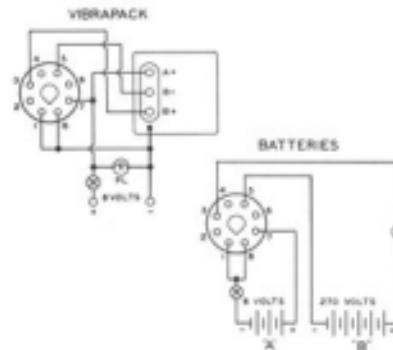

Figure 9. Octal plug wiring diagram
2. Wire an octal plug, as shown in Fig. 9, and plug it into socket SO-1. Use #19 (AWG) wire leads for the 270 volt "B" supply connections to pins #3 and #6, and #12 (AWG) wire leads for the 6 volt battery connections to pins #1, #7, and #8. **CAREFUL!** Check the wiring carefully before connecting to the battery supply. The chart below lists the current voltage data.